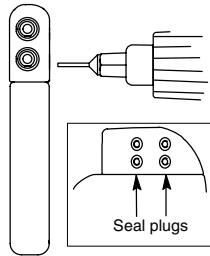

Figure 2-3. Tightening the set-screws.
2. Insert the torque wrench into the center, preslit depression of the seal plug (Figure 2-3) located near the tip of the fully inserted lead connector pin.